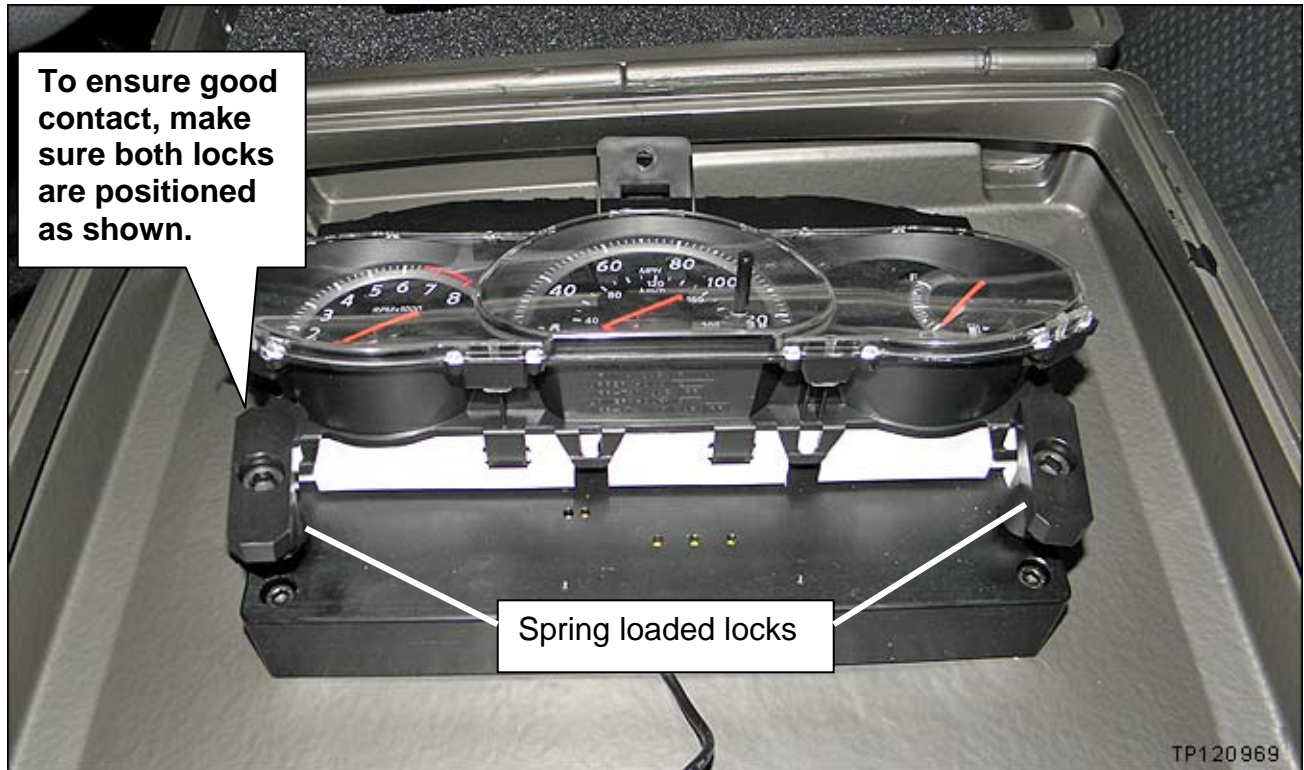

Figure 17
- Use the spring-loaded locks to hold the combination meter in place (see Figure 17 and 18).